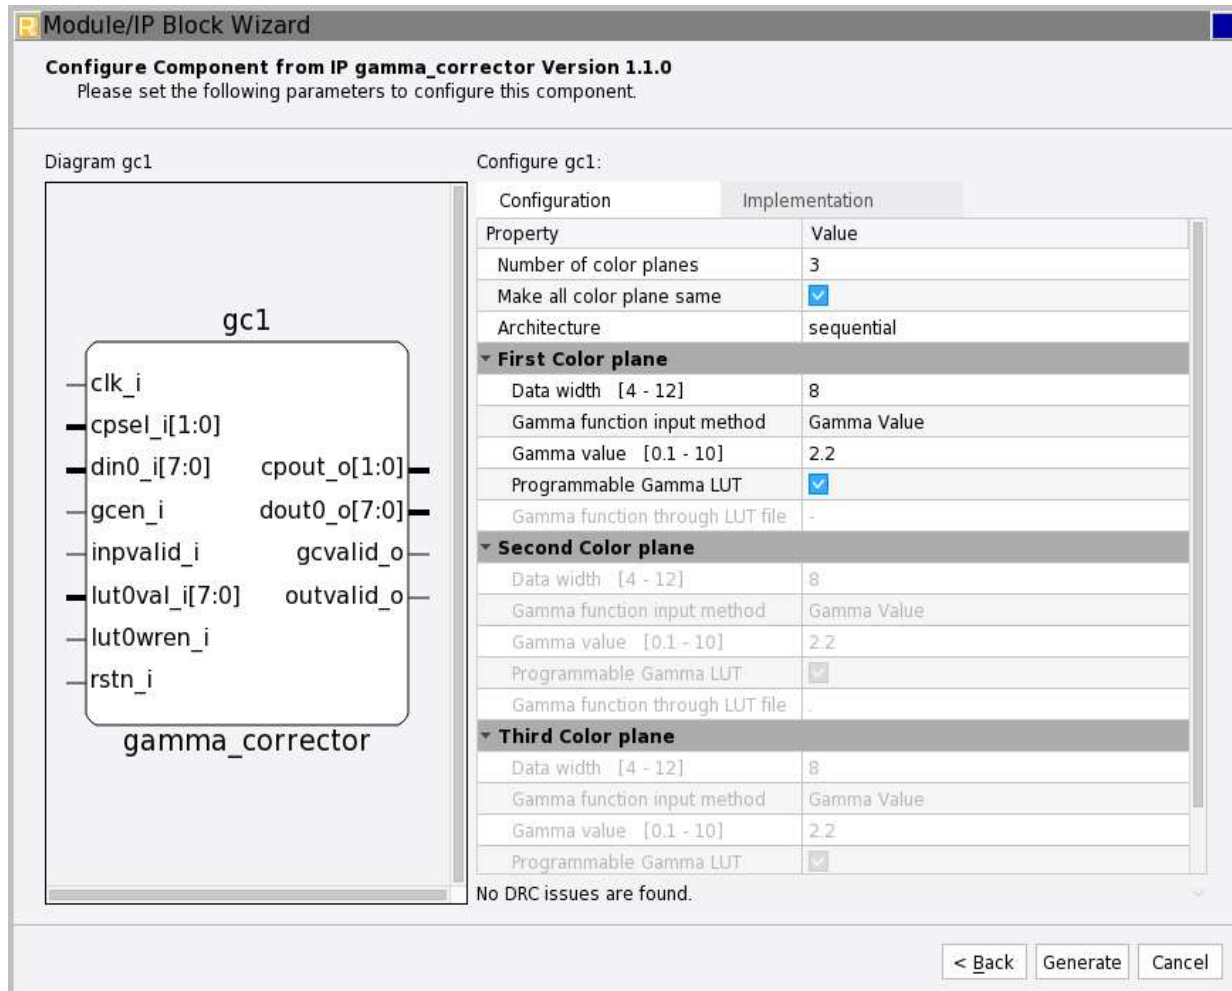

Figure 3.2. Configure User Interface of Gamma Corrector IP Core
- In the module's dialog box of the **Module/IP Block Wizard** window, customize the selected Gamma Corrector IP Core using drop-down menus and check boxes. As a sample configuration, see Figure 3.2. For configuration options, see the Attributes Summary section.